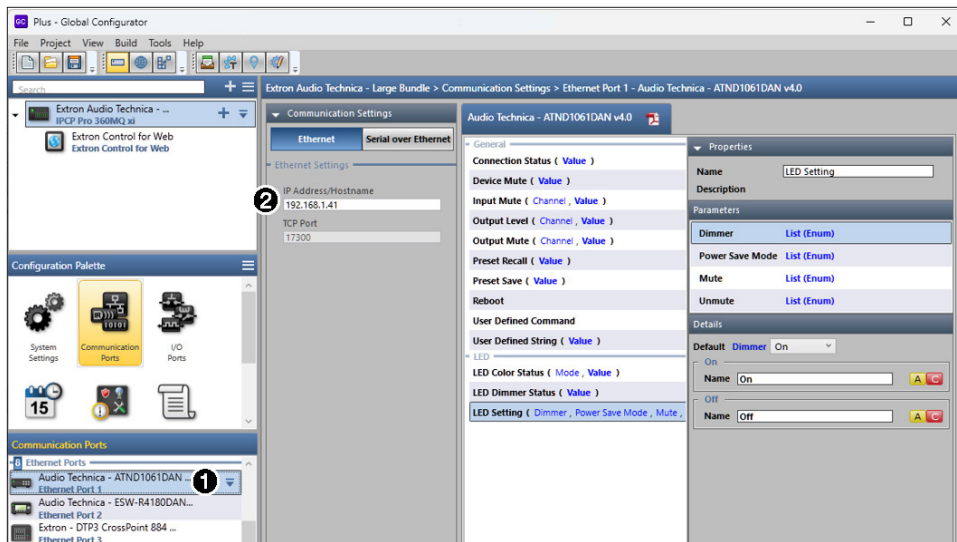
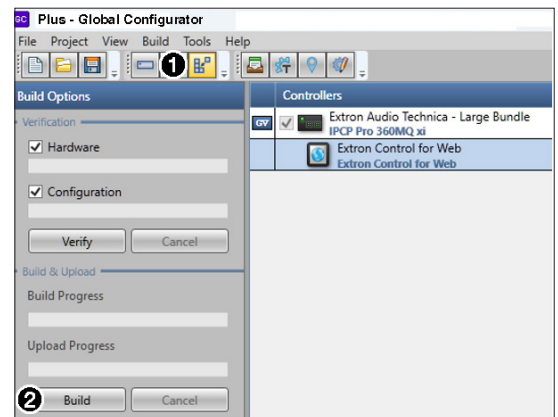
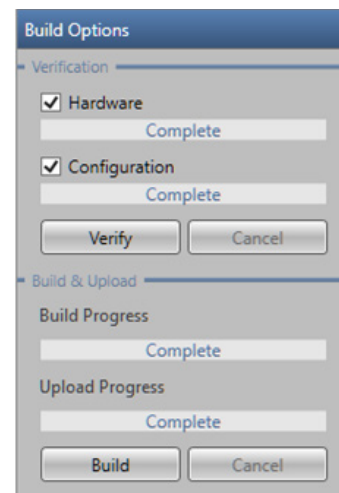

Figure 36. Configuration View — Communications Ports page for Audio Technica
Figure 37. Build Options panel
Figure 38. Build and Upload Completed
6. Choose the first **Audio Technica** under the Ethernet Ports list (see figure 36, ①).
7. Set the IP address (②) of the Audio Technica device.
9. Open Build Manager view (see figure 37, ①, ). This option is also selectable from the View menu.
10. Under the Build & Upload section, click the **Build** button (②).
12. Once the process is complete, the Build and Upload bars both show the message Complete (see figure 38).